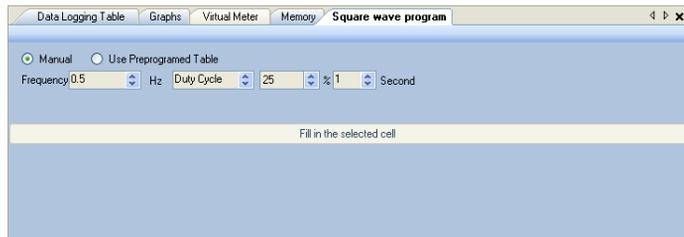

Figure 19 Square wave program operations
- 2 Click the  Square Wave icon to activate the square wave mode. There are two types of operations in the Square wave program tab (as shown in Figure 19):
- 1 Set the frequency, duty cycle, and duration accordingly (Figure 19).